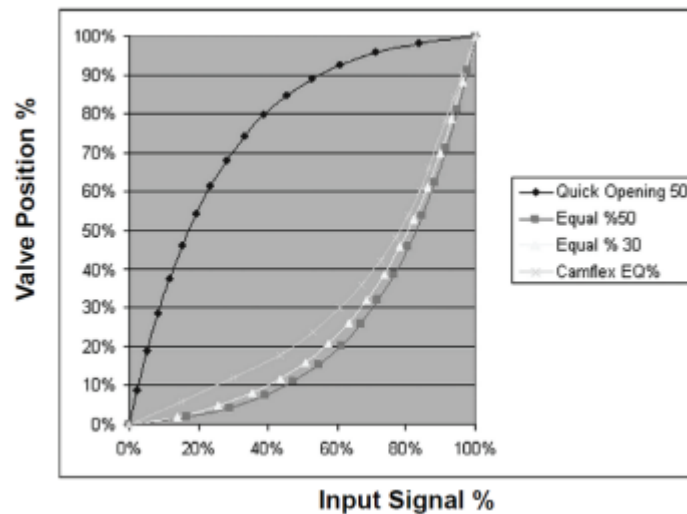

Figure 62 - Characterization Curves
- Equal % (50) and Equal % (30) & Camflex: Three characterizations are available, first with R=50, second with R=30 & third with Linear and R=50. For instance, the positioner will adjust output to force less of an opening of the valve in the region when moving off the seat, and more of an opening of the valve in the region when moving towards full open.
- Custom: Selecting this option displays a Custom Data field showing the default custom data points and an Edit button to access an additional dialog where you can enter or draw a custom characterization curve. The curve can have up to nine points and points in between are linearly interpolated. Figure 62 shows the characterization curves in a graphical format.